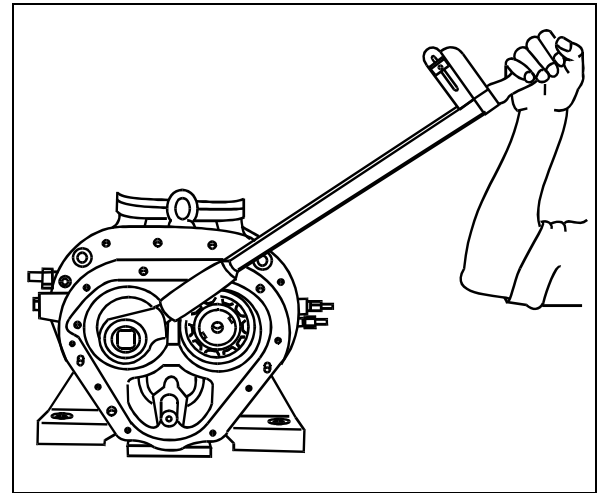

Figure 15: Tightening the grooved nut (23) of the axial bearings using grooved nut wrench T5
- d) Insert new lock plates (24).
- Attach the grooved nut (23) and tighten it using the grooved nut wrench T5 (figure 15)